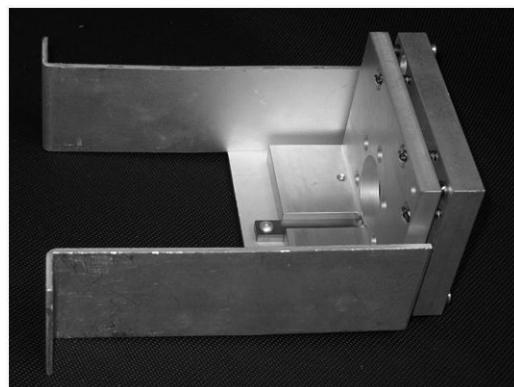

Figure 105: Adjustable resonator extension assembly
14. Fit the HR rear mirror (K) to the mirror alignment plate (J) on the adjustable resonator extension (I) so that the HR coating (L) points towards the back of the resonator.
15. Use the corresponding screws and the mirror clamp (M) to attach the HR rear mirror (K) to the mirror alignment plate (J).
16. Attach the adjustable resonator extension assembly (I) to the rear base plate (B) in the orientation shown in Figure 105.